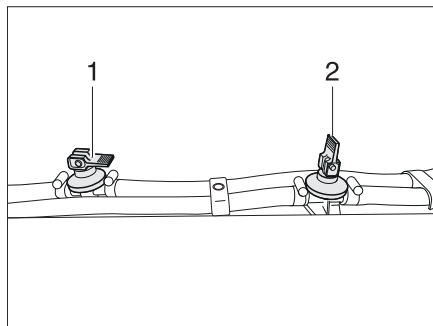

Fig. 291 Drain cock
- Close all drain cocks. Position the rocking lever (Fig. 291,1) horizontally.